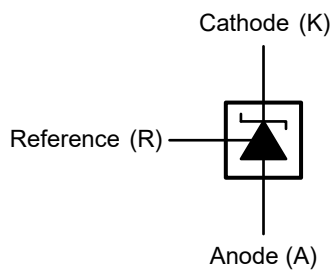

Figure 1
**Test Figure. 1**
The CJ431D / CD431D is an adjustable precision shunt voltage regulator. With sufficient cathode voltage input ( $V_{KA}$ ) and cathode current ( $I_{KA}$ ), the voltage between the Reference and Anode of the device will be maintained at  $V_{REF}$ . The simplest function realization circuit of the CJ431D / CD431D is shown in Test Figure 1.